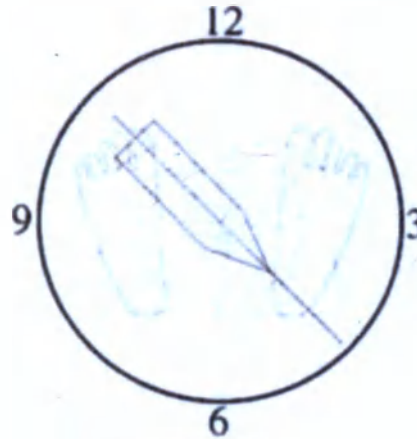

Fig. 3
- Adjust the needle pointer so that the needle is perpendicular to the fossa ovalis (typical between 3:00 and 5:00 o'clock, as viewed from the foot end of the patient). See Fig.3.